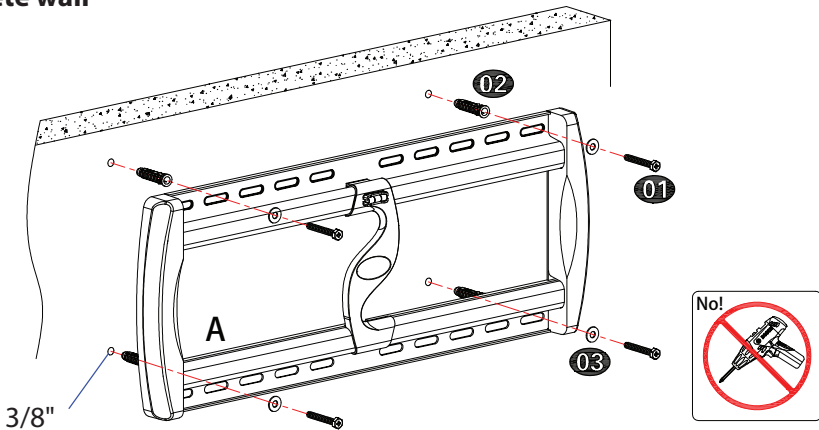

Figure 1 (keep the Wall plate level)
**Step 1:** Remove the plaster board on the surface of concrete wall when assembling mount on the concrete wall. Hold Wall plate (A) against wall at desired position on concrete wall, then using a pencil mark 4 hole locations. Then drill holes according pencil marks using 3/8" size drill bit to a depth of 2.5". Then you will need to use wall anchors 02. Insert wall anchors 02 into holes, you may need to use hammer to lightly tap wall anchors into wall. Then fix Wall plate (A) to the wall with screws 01 and washers 03. (Figure 1)